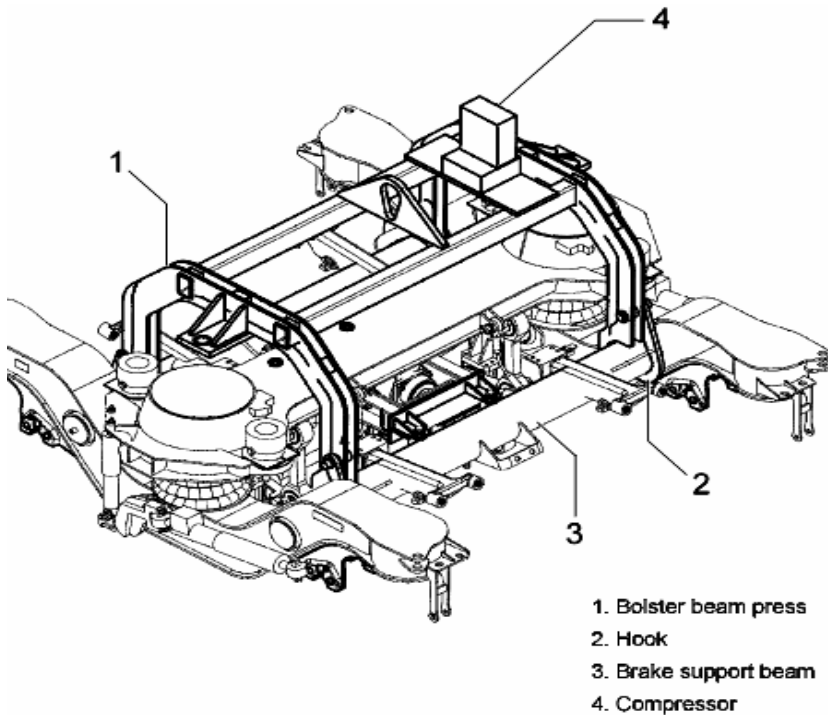

Fig. 3.4 Pressing the Bolster Beam
The separation of the bolster beam from the traction center (Para. 3.1.3), from the anti-roll bar (Para. 3.1.4) and the removal of the safety cables (Para. 3.1.5) requires the use of the press 2613037500 (Fig. 3.4). The press is secured to the brake support beam (3) through hooks (2). On its top the press has a small compressor, which operates two actuators. Before pressing the bolster beam, put a wooden cube block (100 mm side) under the actuators. Operate the compressor and press the bolster beam.